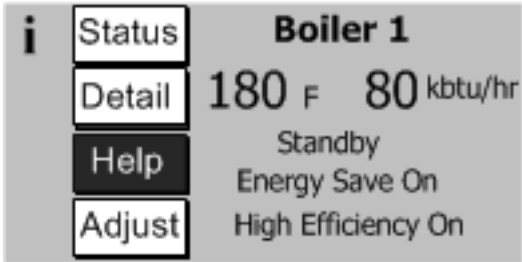

Figure 11.2c: Home Screen with Active Fault
13. If there is a problem that appears before the first try for ignition, or if the boiler fails to light after six tries for ignition, the blinking "HELP" button is highlighted on the Home screen (Figure 11.2c). Touching this "HELP" button will take the user to the Diagnostics menu where the cause of the problem can usually be found by pressing the flashing button on each successive screen.